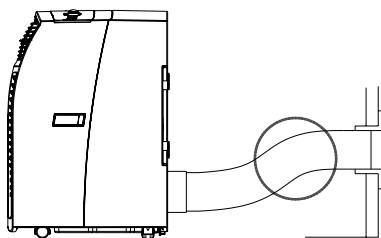

FIG.11
- Avoid kinks and sharp bends in the exhaust hose as this will cause expelled moist air to build up and the unit will overheat and shut down. Fig 11 & 12 shows correct position